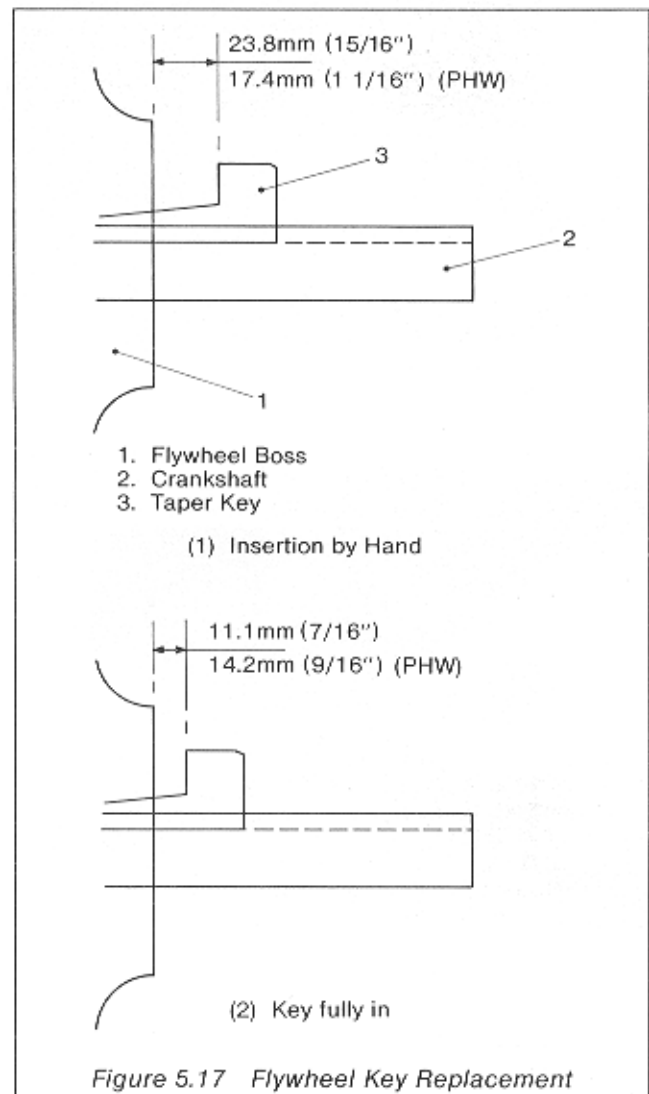

Figure 5.17 Flywheel Key Replacement
- (1) File a chamfer on all four corners of the key to prevent any possibility of the corners binding in the keyways corners.
- (2) Push the key by hand as far as possible into the keyway. Measure the distance between the flywheel boss and keyhead, as shown in Figure 5.17, this should be 23.8 mm (15/16 in.). If it is more, remove metal from the bottom of the key to obtain this measurement.